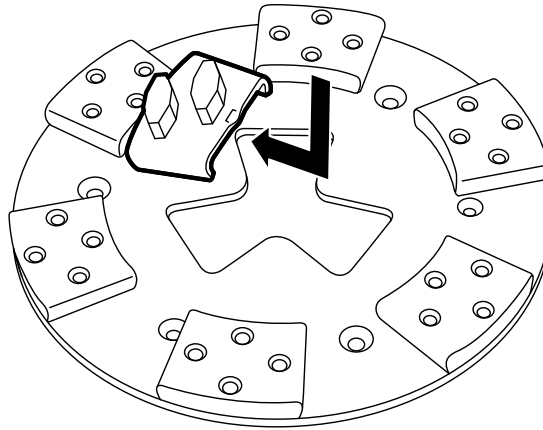

Figure 4-1 Fitting grinding tools
1. Slide the grinding tool diagonally from above down into the appropriate guide slot on the tool holder, see Figure 4-1 on page 22. Then push the tool fully into the guide slot.
2. Slide the grinding tool diagonally from above down into the appropriate guide slot on the tool holder - see Figure 4-1 on page 22. Then push the tool fully into the guide slot.